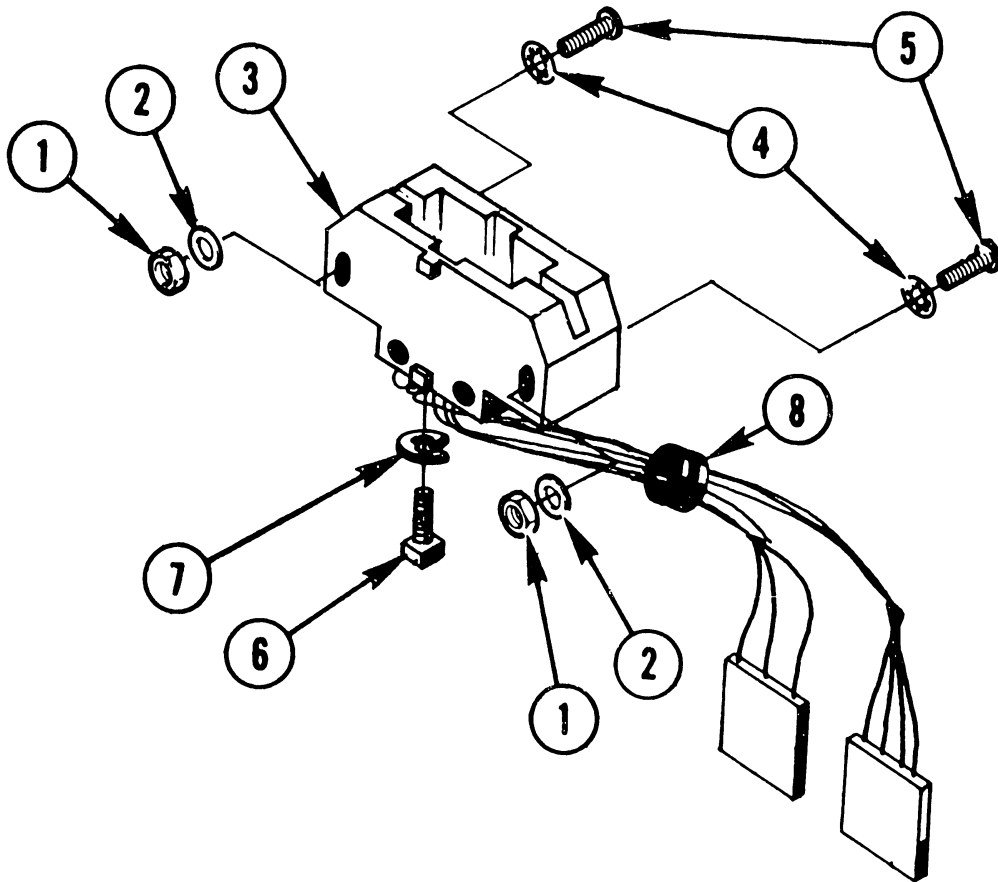

FIGURE 9-8 PRINT WHEEL ENCODER MOUNTING
9.3.7 PRINT WHEEL ENCODER MOUNTING (SEE FIGURE 9-8)